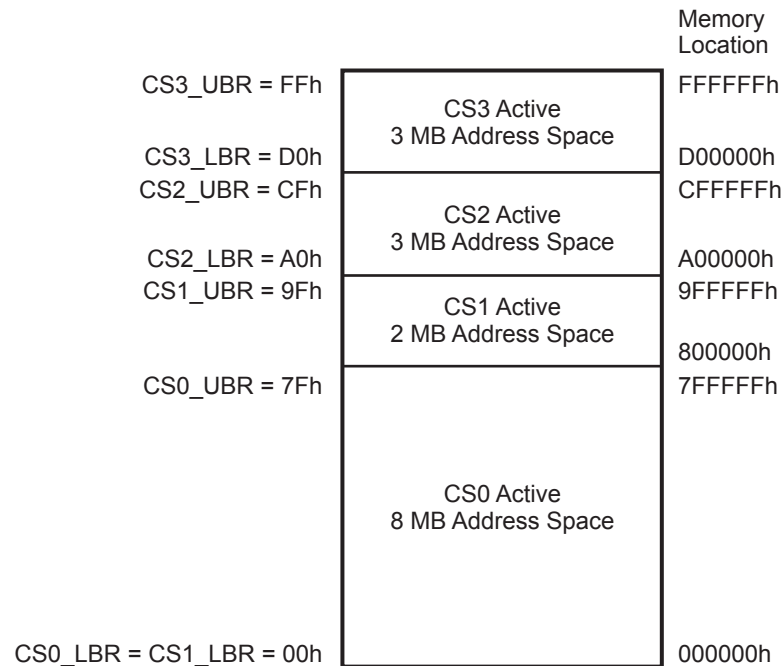

Figure 6. Example: Memory Chip Select
The use of Memory Chip Selects is displayed in Figure 6. The associated control register values listed in Table 13 on page 50. In this example, all 4 Chip Selects are enabled and configured for memory addresses. Also, CS1 overlaps with CS0. As CS0 is prioritized higher than CS1, CS1 is not active for much of its defined address space.
**Table 13. Register Values for Memory Chip Select Example in Figure 6**